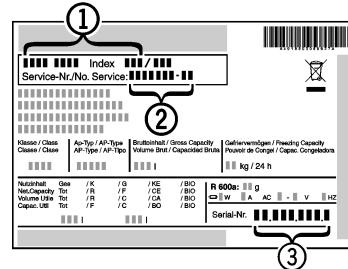

Fig. 6
- Read the appliance name *Fig. 6 (1)*, service no. *Fig. 6 (2)* and serial no. *Fig. 6 (3)* on the rating plate. The rating plate can be found on the inside of the appliance on the left.
- Notify our customer service team and give them the error, the appliance name *Fig. 6 (1)*, service no. *Fig. 6 (2)* and serial no. *Fig. 6 (3)*